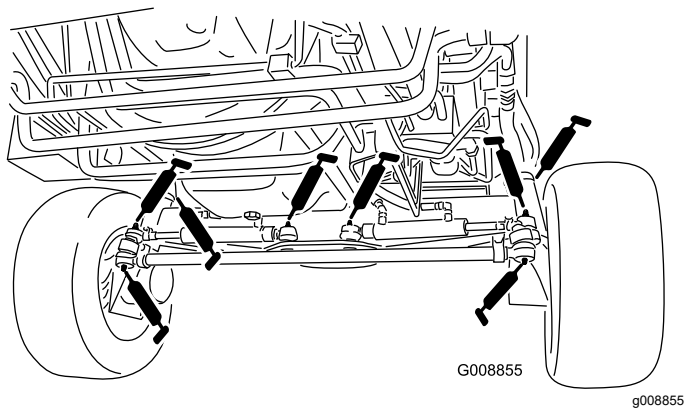

Figure 50
- 4 steering-cylinder-ball joints (Figure 50)
- 2 tie-rod-ball joints (Figure 50)
- 2 king-pin bushings (Figure 50)